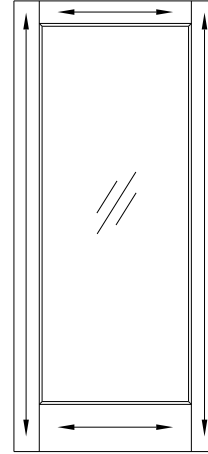

Figure 1
2. Sand the entire surface lightly using 5/0 sandpaper (180 grit) before you apply first coat of finish. Always sand in the direction of the wood grain, see Figure 1.
2. Stain door to desired color following stain manufacturer's instructions. Always stain in the direction of the wood grain, see Figure 1.
2. Finish the door with two coats of latex, oil-base or lacquer paint. Make sure to allow door to completely dry between coats on all six sides of door. Always paint in the direction of the wood grain, see Figure 1.